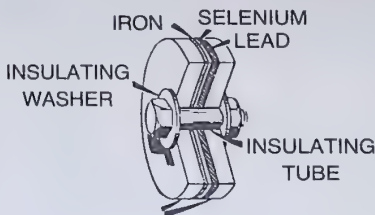

Fig. 10-40. A selenium rectifier.
**Selenium Device.** Selenium rectifiers function in much the same manner as copper-oxide rectifiers. A selenium rectifier is shown in Fig. 10-40. Such a rectifier is made up of an iron disc that is coated with a thin layer of selenium. In this type of rectifier the electrons flow more easily from the selenium to the iron than from the iron to the selenium. This device may be operated at a somewhat higher temperature than a copper-oxide rectifier of similar rating. The efficiency is between 65% and 85%, depending on the circuit and loading.